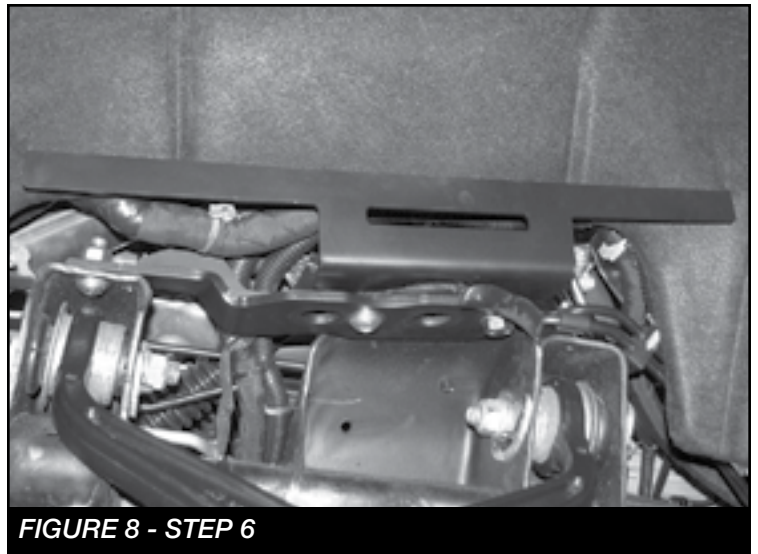

FIGURE 8 - STEP 6
6. Re-install the bracket using the supplied 1/2" hardware. **NOTE: Install the button head bolt at the control arm pocket location. Torque to 127 ft-lbs. IF INSTALLING RESI SHOCKS, MOUNT THE RESI MOUNT AT THIS TIME. FT20795 (Driver Resi Mount) SEE FIGURE 8.** Re-install the upper control arm. Torque to 160 ft-lbs.